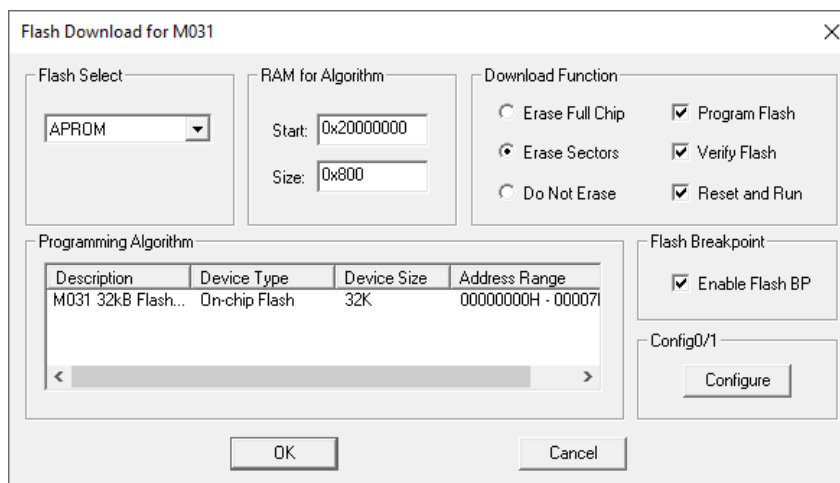

Figure 5.2-16 Nu-Link2-Pro Programming Settings
- (6) Click the **Settings** button to open the *Flash Download* form, as shown in Figure 5.2-16 where the user can specify the options before or after programming with the Nu-Link2-Pro.